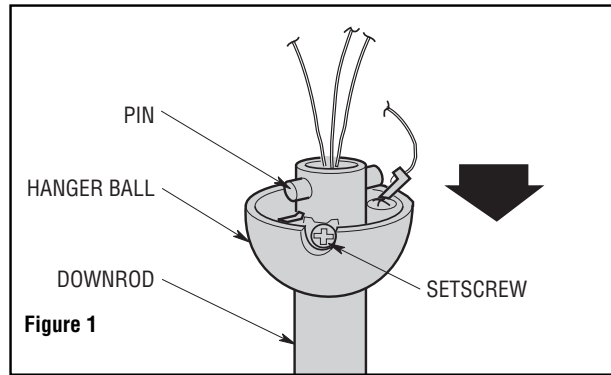

Figure 1
2. Remove the hanger ball from the downrod by loosening the setscrew in the hanger ball until the ball falls freely down the downrod (Figure 1). Remove the pin from the downrod, then remove the hanger ball. Retain the pin and hanger ball for reinstallation in Step 9.